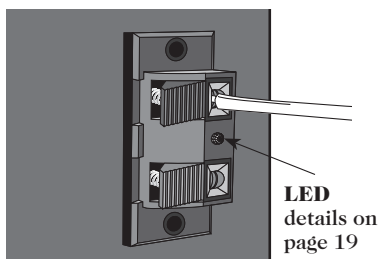

figure 8
4. Release toggle to secure wire in connector (**figure 8**).